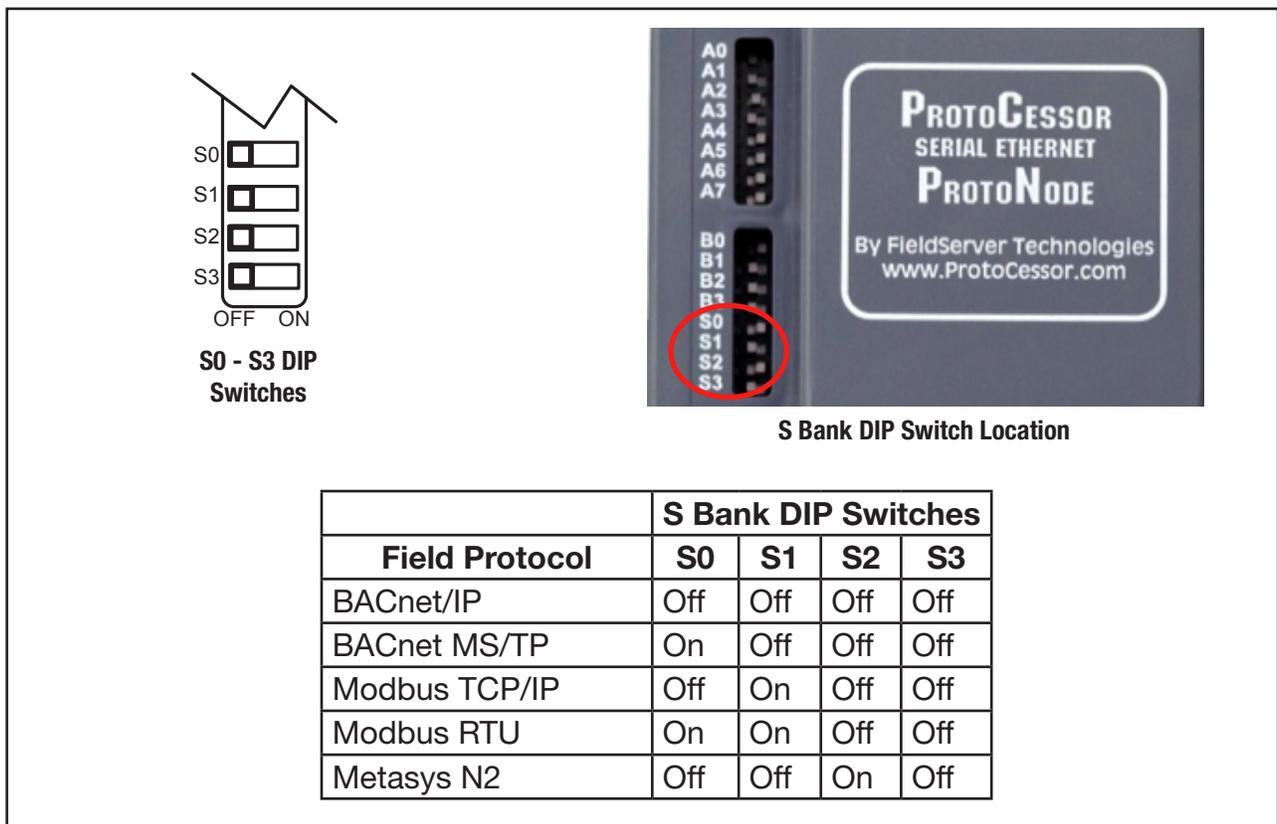

Figure 3: Switch Configuration for Field Protocol
- See **Figure 3** for the switch settings to select BACnet MS/TP, BACnet/IP, Modbus TCP/IP, Modbus RTU or Metasys N2.